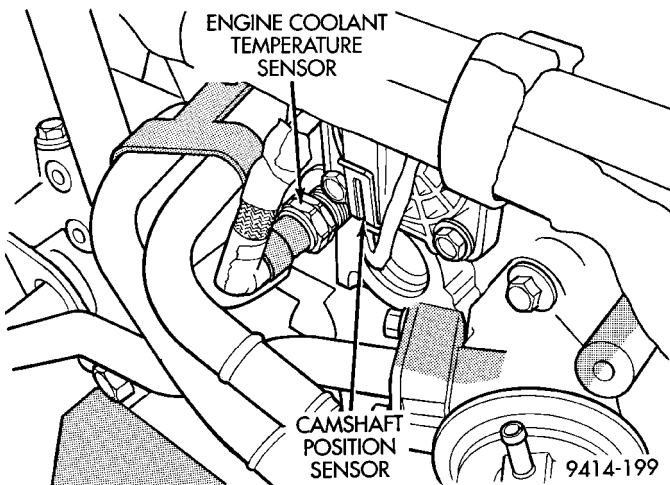
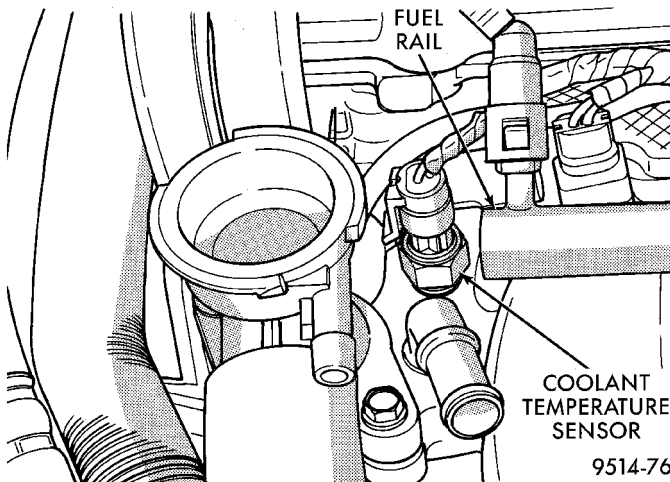

Fig. 78 Engine Coolant Temperature Sensor Location—SOHC
Fig. 79 Engine Coolant Temperature Sensor Location—DOHC
(1) With the key off, disconnect wire harness connector from coolant temperature sensor (Fig. 78) or (Fig. 79).